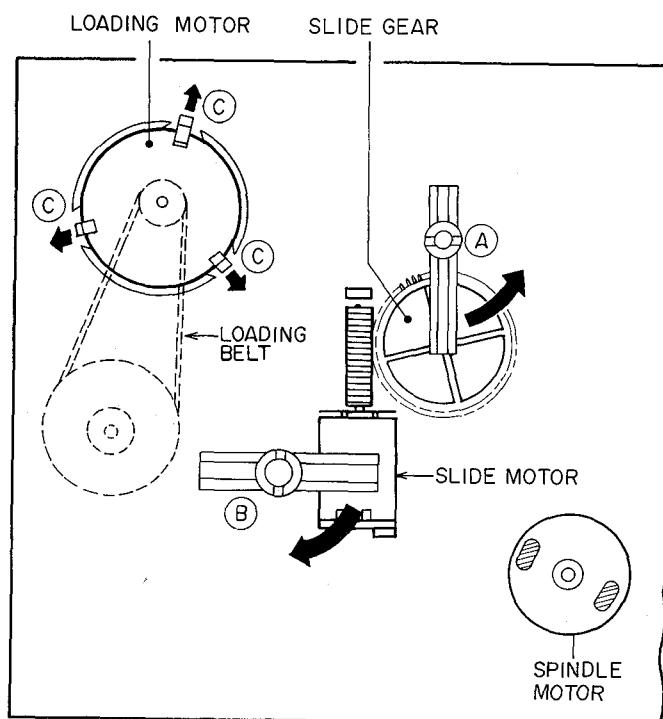

Fig. 6-1
- 2) Extend motor holders C, at the same time, push the loading motor from pulley side, then remove the loading motor. (Fig. 6-1)
- 2) Pull out the slide motor. (Fig. 6-1)
- 1) Turn the gear hold lever A counterclockwise. (Fig. 6-1)